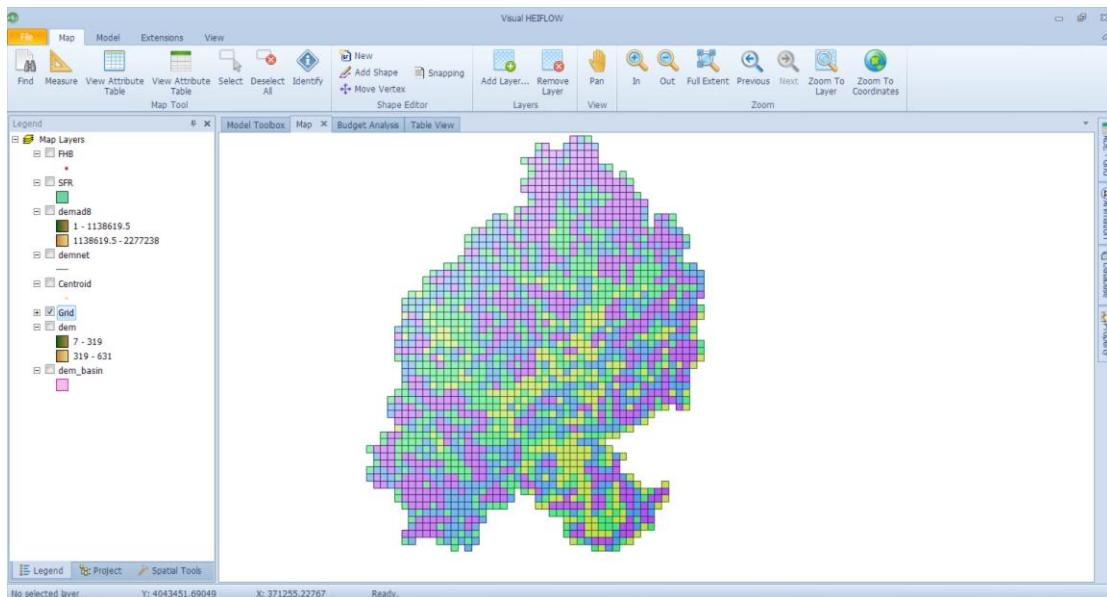

Figure 8-20. Spatial distribution of actual ET trends at a daily time scale.
- 5) Click Run, then the spatial distribution of actual ET trends at a daily time scale is shown in the map (Figure 8-20).